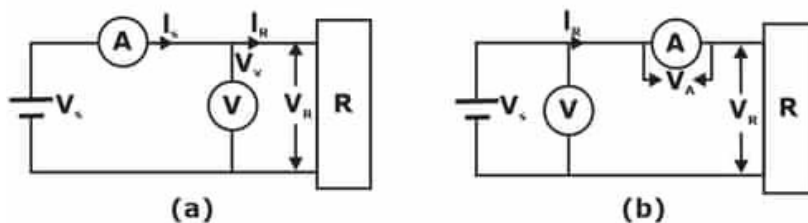

Figure 1. Two arrangements for power measurement in dc circuits
Thus, power measurement in a dc circuit can be carried out using a voltmeter (V) and an ammeter (A) with any one of the arrangements shown in Figure 1.
One thing should be kept in mind while using any of the two measuring arrangements shown in Figure 1; that both the voltmeter and the ammeter requires power for their own operations. In the arrangement of Figure 1(a), the